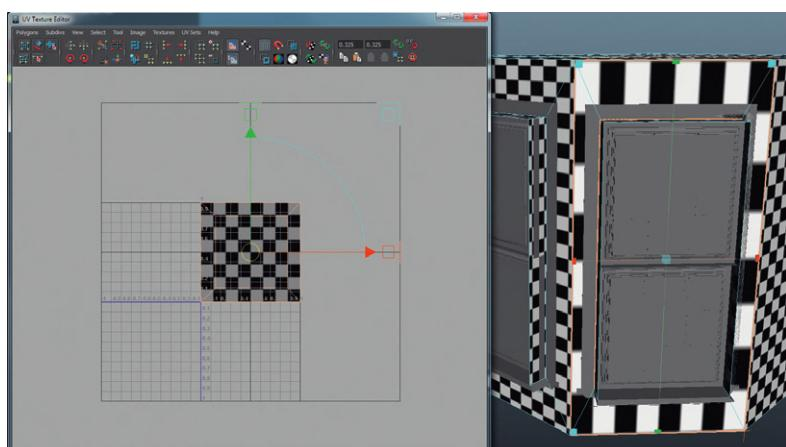

FIG 5.12 Results of a Planar Mapping using Best Plane.
Step 11: Use Planar Projection to project the texture anew in a more accurate way. Do this by selecting Polygons|Create UVs > Planar Mapping (Options). In the options window, look for the Fit Project To Area and click on Best Plane. Finally click on Project. The results will appear like Fig. 5.12.